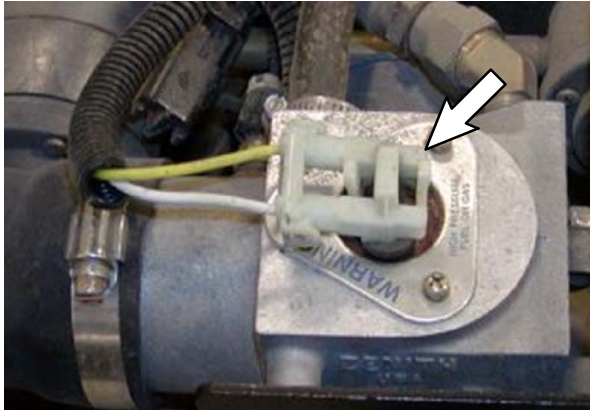

FIG. 5
8. Disconnect the injector harness connector from the throttle housing. Refer to Fig. 5.
15. Reconnect the injector harness connector to the new fuel injector (12). Refer to Fig. 5.